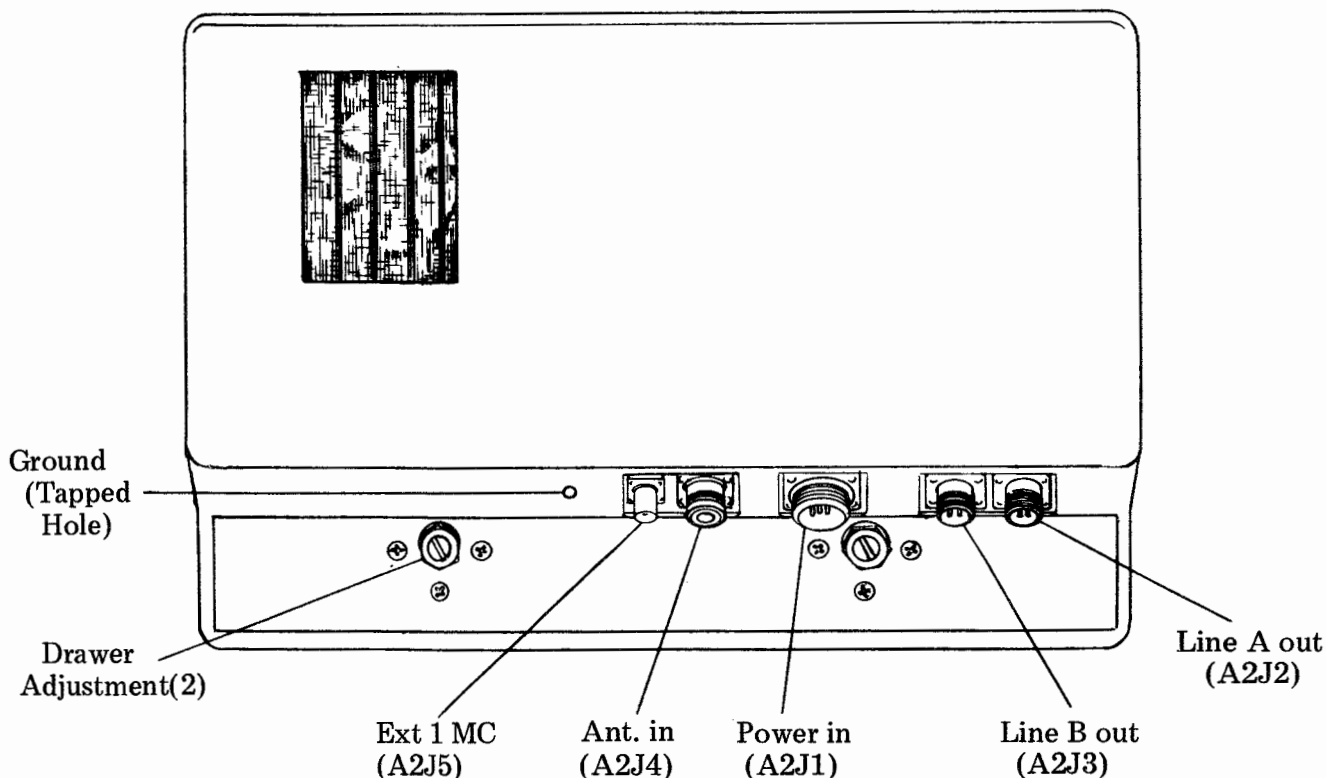

Figure 2-1. External Cable Connections
For normal operation, 100/110/120 Vac, 50-60 or 400 Hz single phase power is required. Voltages should not exceed  $\pm 10\%$  and frequency  $\pm 5\%$  of the nominal value. Primary power is applied to a female connector (supplied) which connects to power in receptacle (A2J1). See Figure 2-1. Power distribution within the cabinet is shown on Figure 5-38, Section 5 of this technical manual.
b. Figure 2-1 shows location of receptacles in the rear of the cabinet.